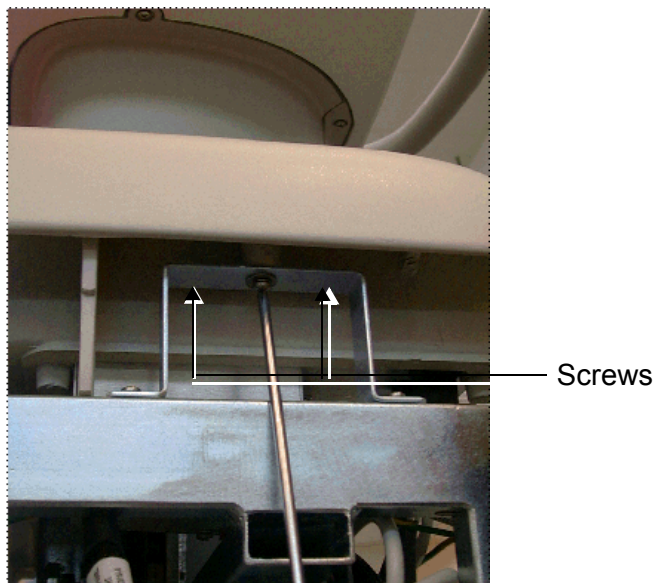

Figure 8-9 Top Cover (Lower Section) Screws
- 12) Fasten the top cover with the two screws located in the brackets underneath the top cover, on either side of the unit, as shown in Figure 8-9 on page 8-9.